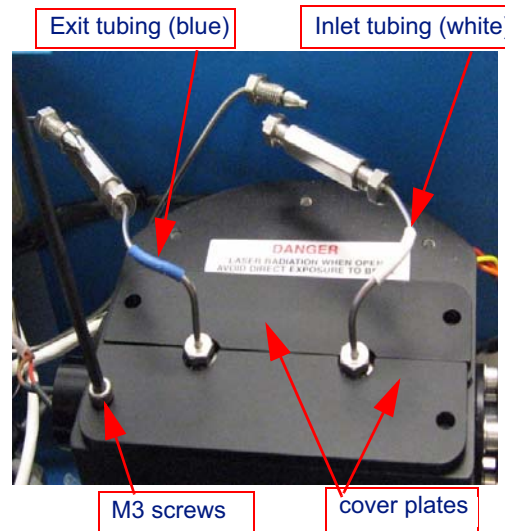

Figure 5-2: Flow Cell without COMET Option
If the COMET option is not installed, see Figure 5-2.
7. Using the 1/4" crescent wrenches, remove the inlet tubing and outlet tubing at the fittings as shown in Figure 5-2. The flow cell does not need to be unplumbed at this point if you are simply going to inspect the cell for dirt.